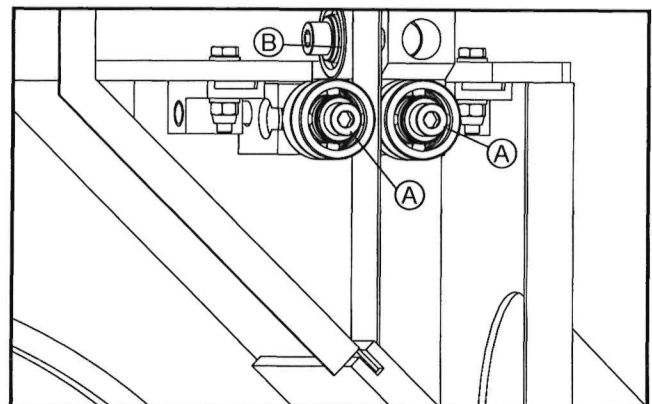

Fig.4.5.2
- To roller bearing should lightly touch the blade, to prevent vibration during operation and ensure correct direction of cutting. The positioning of these rollers is controlled by screw "A" (Fig.4.5.2), once they have been adjusted, tighten the screw "A" (Fig.4.5.2); they should be 2 mm behind the teeth of the blade. The thrust shaft prevents excessive backward movement of the blade whilst in operation, and should be 1-2 mm from the back of the blade: this can be adjusted by screw "B" (Fig.4.5.2).